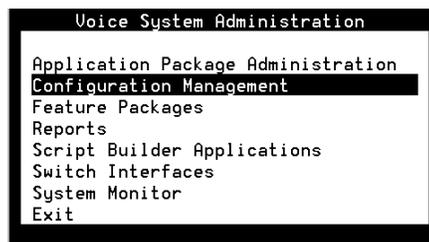

Figure 5-1. Voice System Administration Menu
The system displays the Voice System Administration menu (Figure 5-1)
1. Start at the Voice System Administration Menu (Figure 5-1) and select:
13. Press **F6** (CANCEL) to return to the Voice System Administration menu (Figure 5-1).